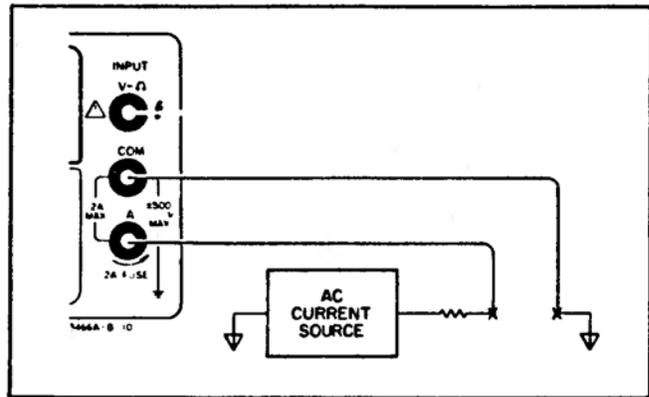

Figure 3-9. AC Current Measurement
- c. Connect test leads from the Multimeter A and COM terminals in series with the current under test as shown in Figure 3-9.